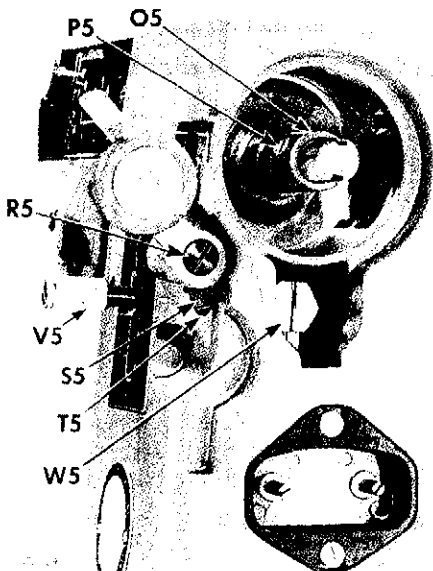

Fig. 311. Arm Shaft Counterbalance
4. Remove screw **P5** and counterbalance **O5**, Fig. 311 from arm shaft.
4. Replace counterbalance **O5**, Fig. 311.
5. Insert screw **P5** through counterbalance **O5** and hole provided for it on arm shaft, as shown in Fig. 311.
4. Remove large screw stud **W5**, **Fig. 311** with its spring and washer from arm casting.
2. Replace large stud **W5**, **Fig. 311** with spring and washer, so that stud holds slide to inside of arm.